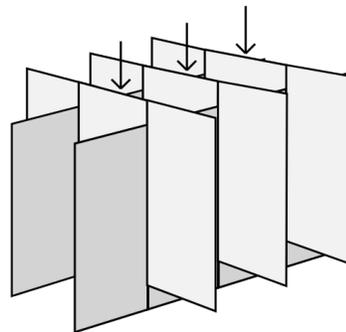

Figure 3
4. Assemble partition with the three small inserts intersecting the two large inserts. (See Figure 3)